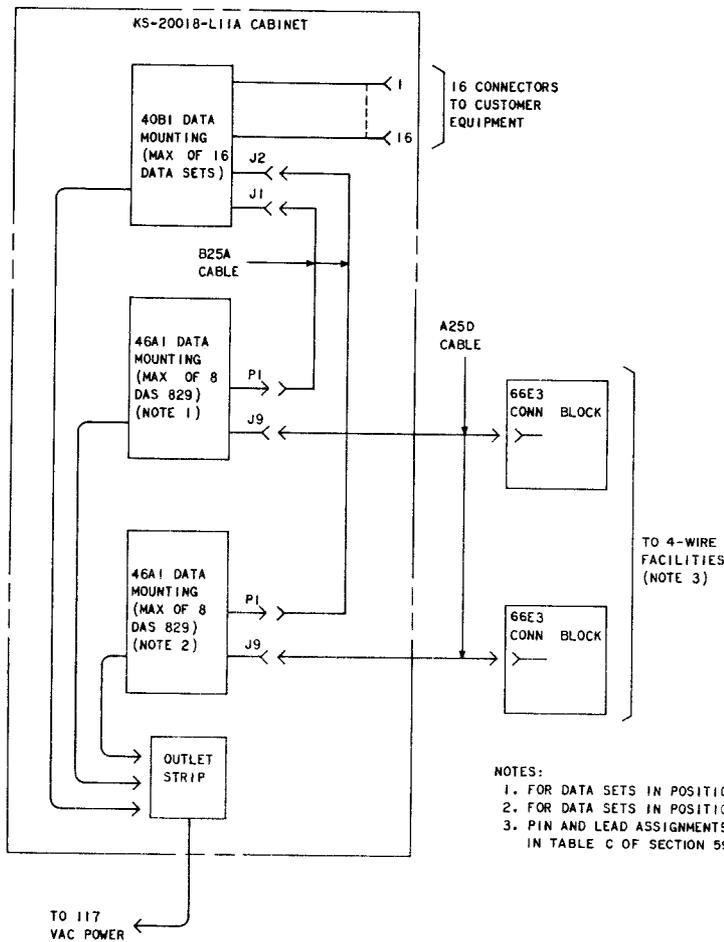

Fig. 7—Data Station Using DAS 829-Type
3.05 The 40B1 data mounting used with DAS 829-type is shown in Fig. 7. This shows a